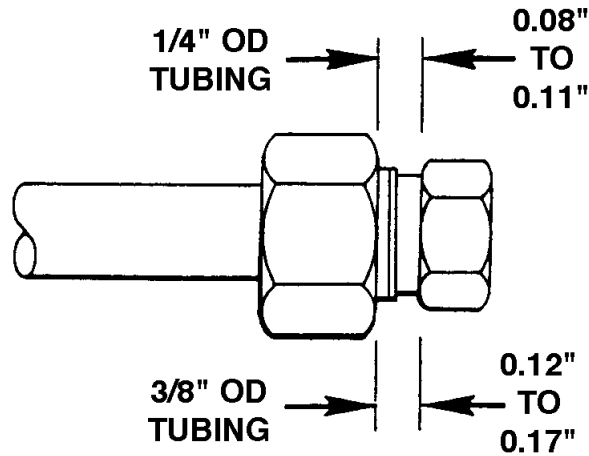

Figure 9-3. Tolerances, Union Nut and Tubing Nut
e. After torquing each fitting, measure the distance between the face of the union nut and face of tubing nut. Refer to Figure 9-3 for tolerance.
a. Repair fittings showing evidence of galling, or that do not meet the dimensional requirements of Figure 9-3. Fittings that continue to leak after being tightened must be repaired.